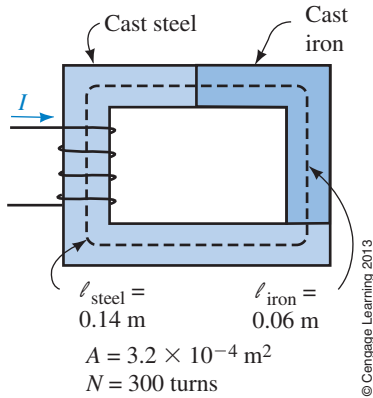

FIGURE 12-48
17. A gap of 0.5 mm is cut in the cast steel portion of the core in Figure 12-48. Find the current for $\Phi = 0.128 \text{ mWb}$. Neglect fringing.
18. Two gaps, each 1 mm, are cut in the circuit of Figure 12-48, one in the cast steel portion and the other in the cast iron portion. Determine current for $\Phi = 0.128 \text{ mWb}$. Neglect fringing.